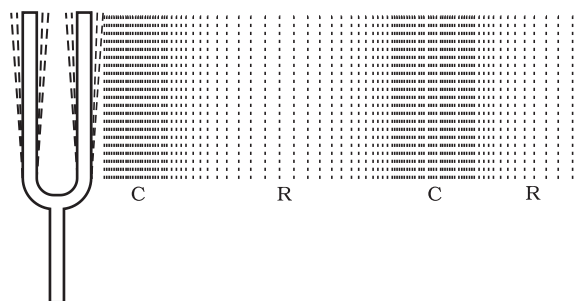

Fig. 11.4: A vibrating object creating a series of compressions (C) and rarefactions (R) in the medium.
Air is the most common medium through which sound travels. **When a vibrating object moves forward, it pushes and compresses the air in front of it creating a region of high pressure. This region is called a compression (C), as shown in Fig. 11.4. This compression starts to move away from the vibrating object. When the vibrating object moves backwards, it creates a region of low pressure called rarefaction (R), as shown in Fig. 11.4. As the object moves back and forth rapidly, a series of compressions and rarefactions is created in the air. These make the sound wave that**